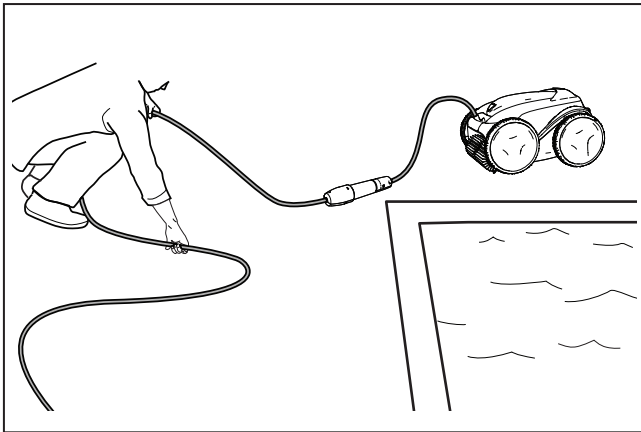

Figure 26. Untangle the Floating cable
2. Starting at the cleaner head, remove all coils and tangles from the cable (Figure 26). Lay the cable in the sun to loosen any tangling memory.